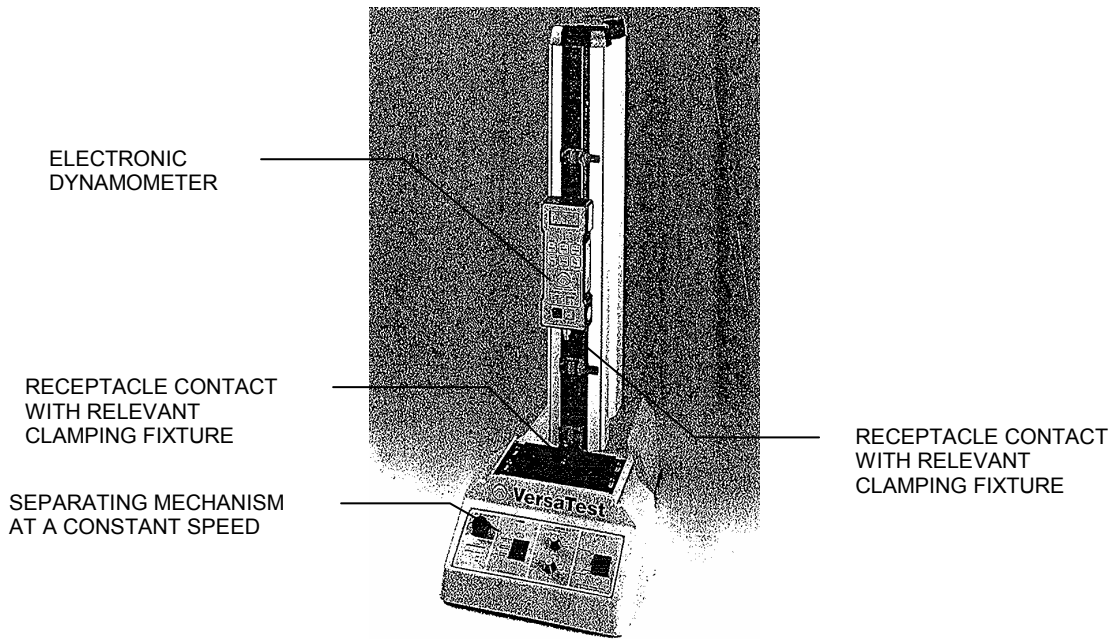

Fig. 1
- A. Electronic Dynamometer to register the applied force (see Fig. 1 for ref.)
- B. Mechanism to separate the holding devices at a constant speed (see Fig. 1 for ref.)